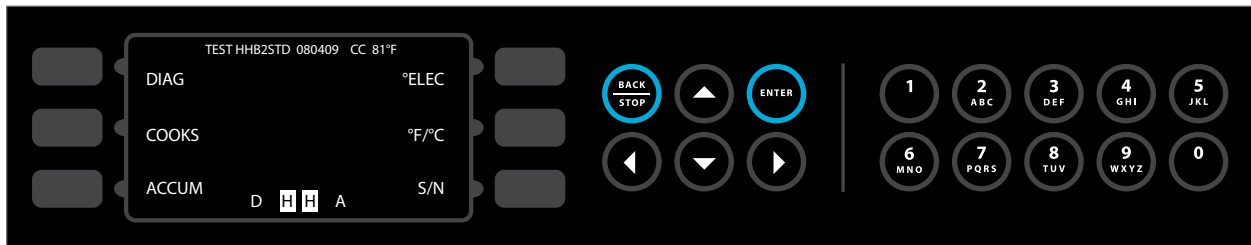

Figure 28: Test Mode Screen 2 of 2
From Test Mode screen 2 (Figure 28):
1. From Test Mode screen 1, press the Down Arrow key to view screen 2 (Figure 28).
1. From Test Mode screen 2 (Figure 28), press the middle-left soft key (COOKS) to view the total number of cook cycles completed.
From Test Mode screen 2 (Figure 28, page 25), press the “ACCUM” Soft Key (bottom left) to view cumulative operating time.
From Test Mode screen 2 (Figure 28, page 25), press the top-right soft key (°ELEC) to view the electrical compartment temperature.
From Test Mode screen 2 (Figure 28, page 25), press the middle-right soft key (°F/°C) to change the type of temperature measurement.
1. From Test Mode screen 2 (Figure 28, page 25), press the bottom-right soft key (S/N) to view the serial number.